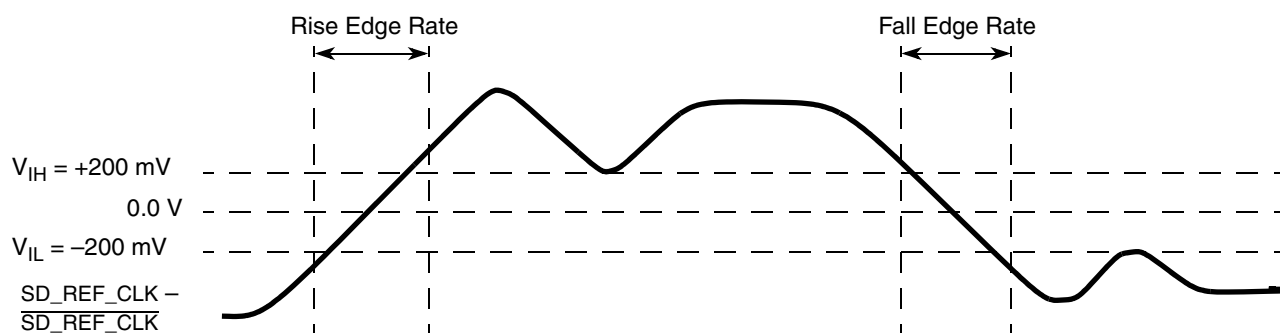

Figure 43. Differential Measurement Points for Rise and Fall Time
The differential waveform is constructed by subtracting the inverting signal ($\overline{\text{SD_TX}}$, for example) from the non-inverting signal (SD_TX , for example) within a differential pair. There is only one signal trace curve in a differential waveform. The voltage represented in the differential waveform is not referenced to ground. See Figure 43 as an example for differential waveform.
- Measured from -200 mV to +200 mV on the differential waveform (derived from SD_REF_CLK minus $\overline{\text{SD_REF_CLK}}$). The signal must be monotonic through the measurement region for rise and fall time. The 400 mV measurement window is centered on the differential zero crossing. See Figure 43.